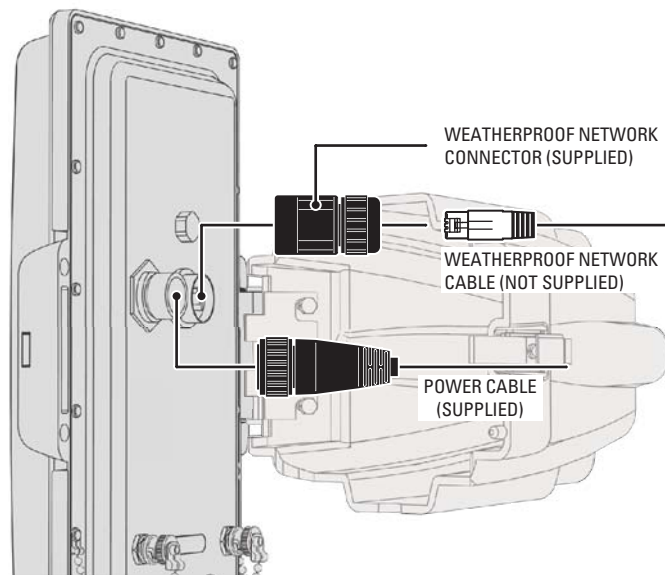

Figure 17. Connecting Cables to the EW5002
9. Connect all cables (refer to Figure 17):